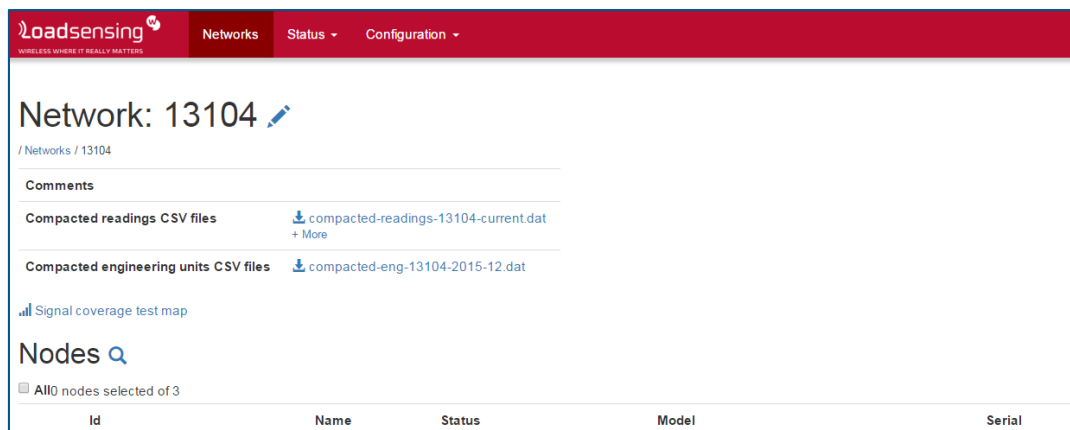

Figure 42: View of the screen where the .csv files of raw data and data transformed into engineering units (of the complete network) can be downloaded.
- General network files: three .dat files are available to download (Figure 42):